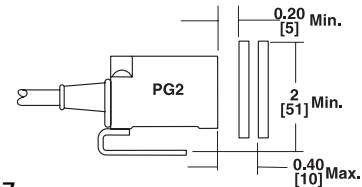

FIGURE 7
2. The Proximity Switch PG2 senses a customer supplied ferrous material (iron or steel) target. Minimum gap between PG2 and target is 0.20 inches; maximum gap is 0.40 inches. The target must be of sufficient mass to trigger PG2 and may be mounted to the roll shaft or any other mechanical component which rotates at the same speed as the roll shaft, brake, rotor, etc., (See Figure 7).